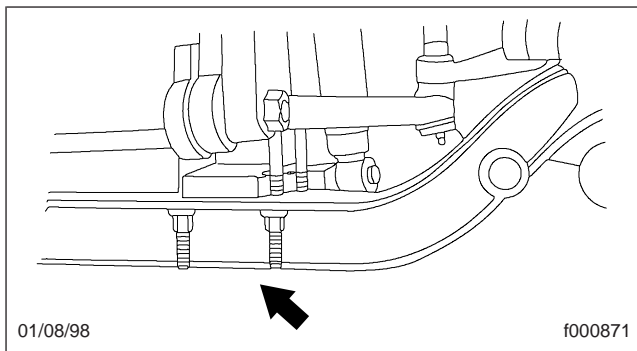

Fig. 1, Front Jacking Points
1. See **Fig. 1** for the front jacking points.